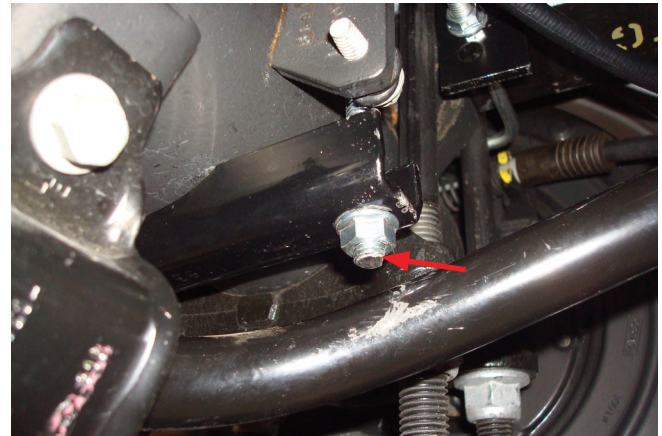

Fig. 34
- On vehicles that have a sway bar, it will be necessary to cut the front carriage bolt just below the nut, so it does not contact the sway bar (Fig. 34).